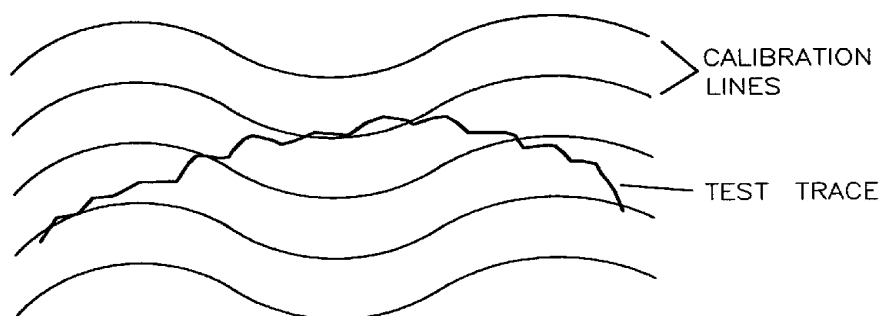
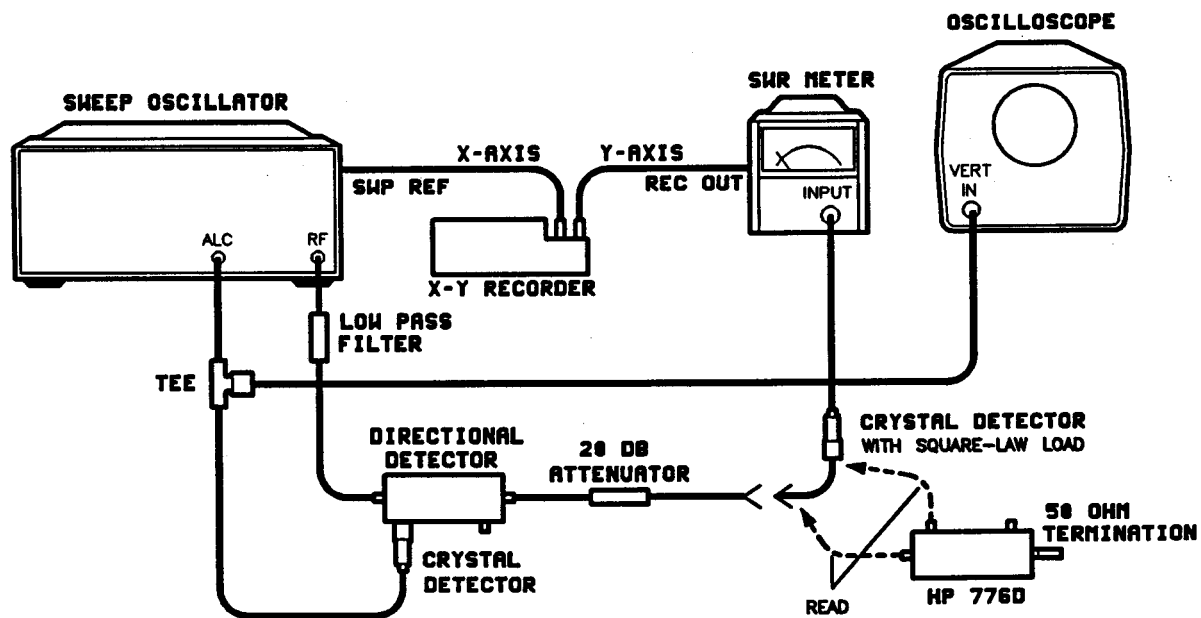

Figure 4 *Coupling Test Setup*
Figure 5 Coupling Test Trace
1. Set up the equipment as shown in Figure 5.
10. Adjust the gain of the SWR meter for an indication of 1 dB. Remove the 20 dB attenuator and insert the 776D under test, as shown in Figure 4. Run a test trace. See Figure 5. The test trace should have a variation of less than ± 1 dB and the mean coupling should be between 19.5 and 20.5 dB.